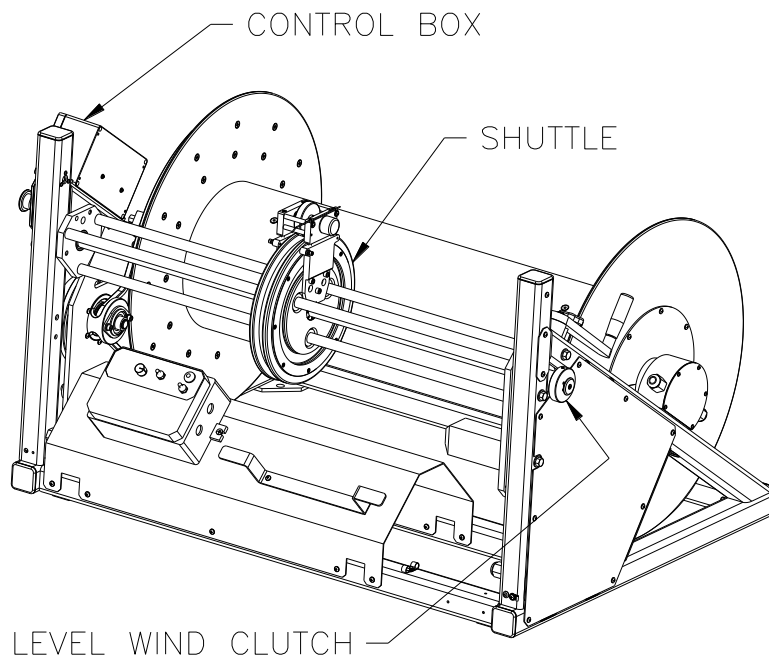

FIGURE 40: LEVEL WIND COMPONENTS
**Note:** In order for the level wind to operate the level-wind clutch must be engaged/ pushed in. See Figure 40 below.